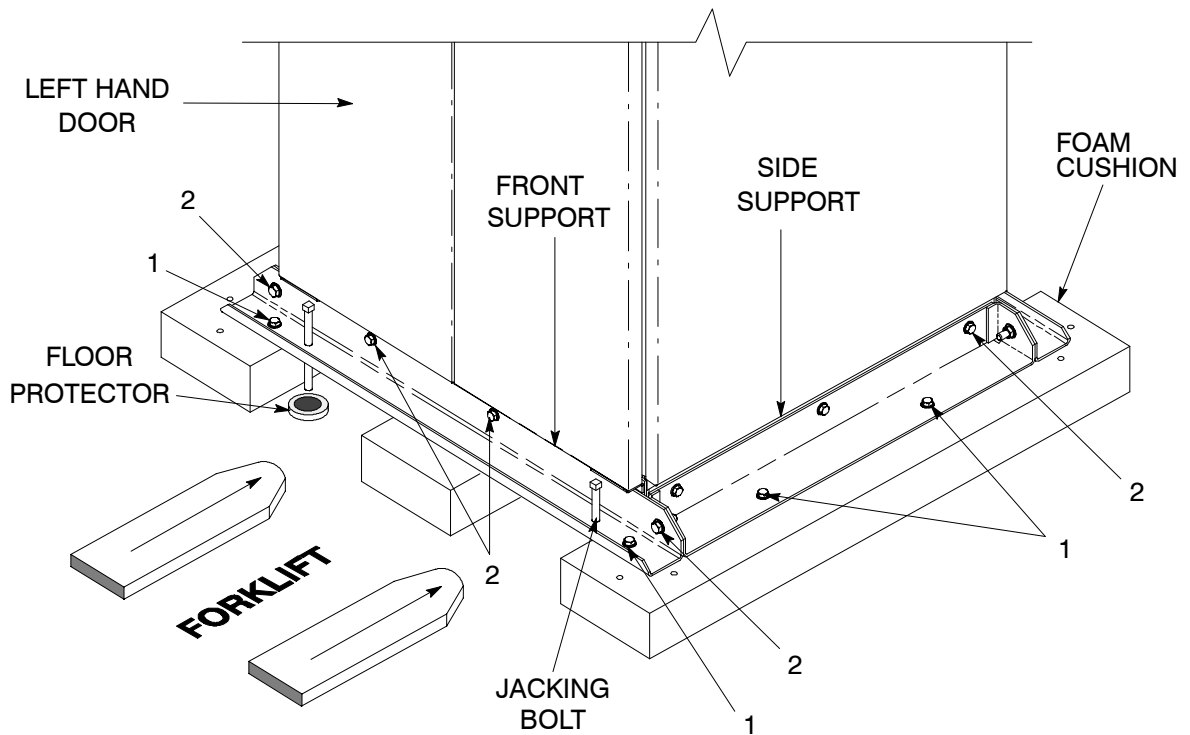

Figure 3. Removing Front and Rear Supports
3. Loosen, but do not remove the hardware holding the foam cushions to the front and rear supports (labeled “1” in Figure 3).
8. Remove the hardware labeled “2” in Figure 3, holding the front, rear and side supports to the cabinet base. Discard or recycle the hardware and support brackets in a responsible manner.